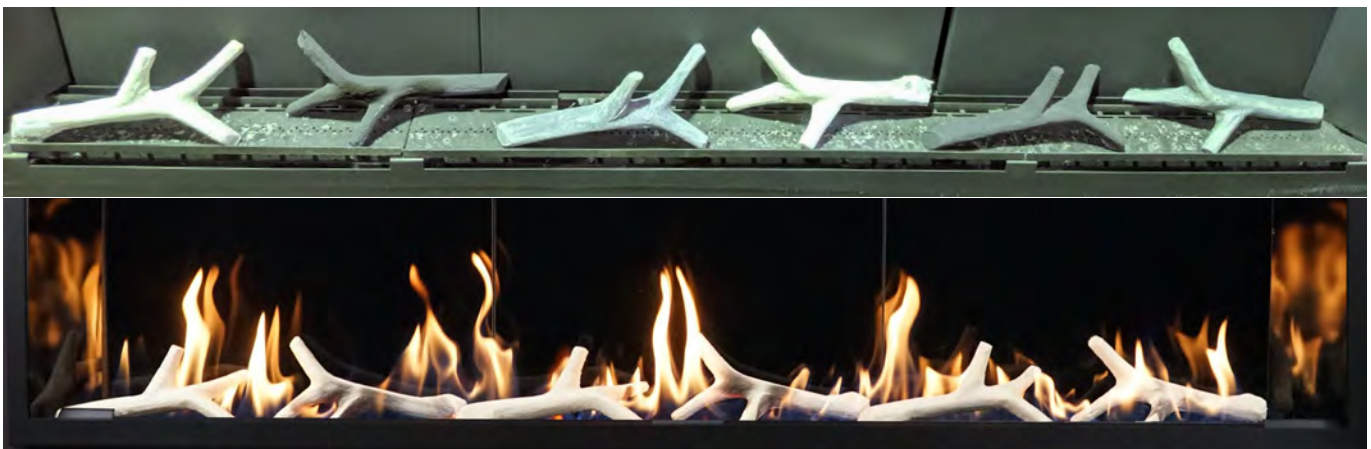

Figure 17.1.03
Step 3: Repeat for the remaining four (4) logs. Light the fireplace to ensure the flame appears as shown in Figure 17.1.03. Adjust the logs if necessary.